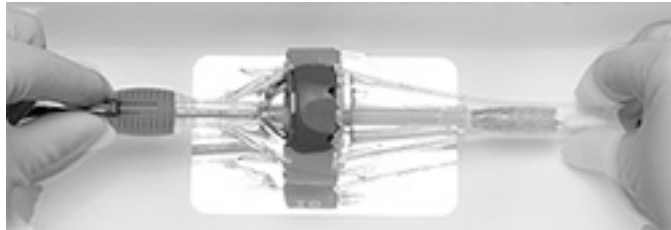

Figure 24
17. While holding the capsule guide tube stationary, advance the inflow cone to crimp the inflow portion of the bioprosthesis frame until the outflow cone contacts the capsule guide tube (Figure 24). During this step, the outflow cone contacts the locking collar component and moves the locking collar to the proximal end of the capsule guide tube.